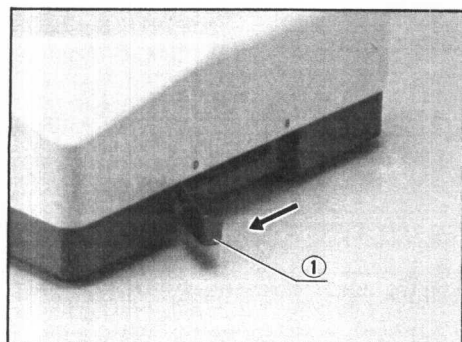

Fig. 25
- ① Slide the selector lever ① to the D position. (Fig. 25)
- ② To obtain a better effect of darkfield illumination, remove the waterproof glass, rotating it counterclockwise, with care not to permit water to infiltrate the base.